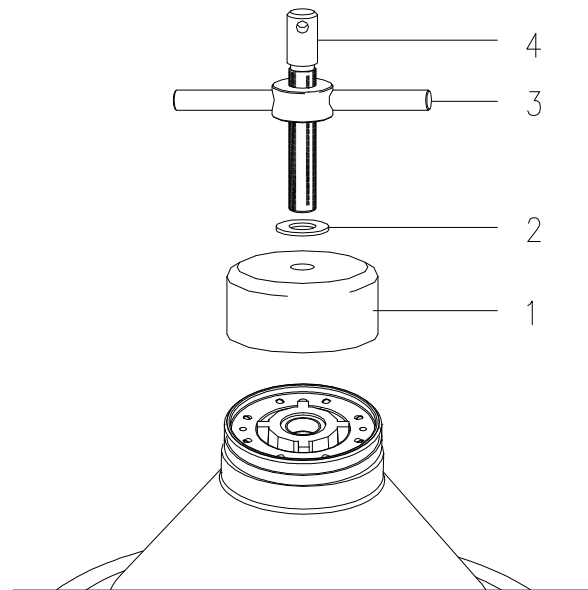
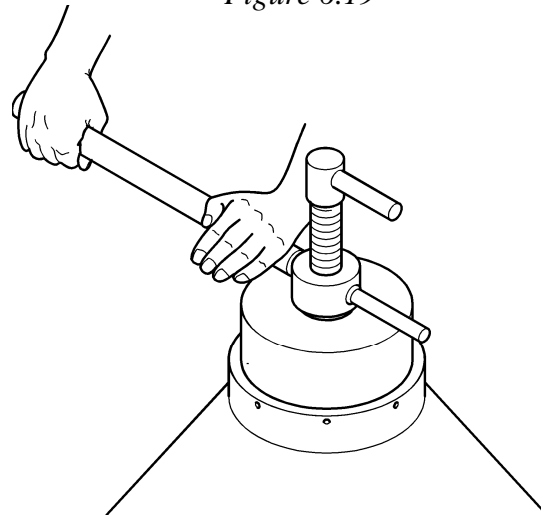

Figure 6.19
Figure 6.20
14) By the spanner (09.060.0 ÷ 09.090.0), compress the **disks stack** (fig. 6.19). To make this, perform the above mentioned operations.
- Lay bell (1) on bowl hood.
- Screw tight threaded rod (4) on the distributor. Do not forget bronze washer (2) under nut with handles (3).
- By using extension pipe (09.020.0) screw nut (3) as much as possible and anyhow until the bowl hood completely lay on the corresponding seat of the bowl body (fig. 6.20).
- 17) Remove the spanner for disks set compression. This spanner also allows to check if disks compression is correct. Infact one manual turn of nut (3 - fig. 6.19), by means of extension pipe, must cause a “sensation of toil”. If after one turn it is still hard to loosen the spanner it means that one or two more disks are still necessary.
- 7) By the spanners (09.060.0 - 09.090.0), compress the **disks stack** (Fig. 6.19). To make this, perform the above mentioned operations.
- By using extension pipe (09.020.0) screw nut (3) as much as possible and anyhow until the bowl hood completely lay on the corresponding seat of the bowl body.
- When the nut (3) lay on the flange (1), one turn is enough to slightly lift the distributor from bowl body.